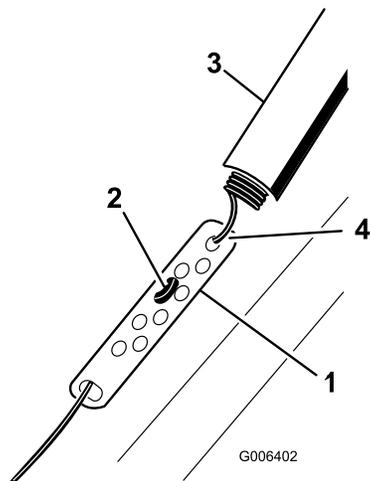

Figure 10
- Slide up the spring cover and unhook the spring from the adjuster link (Figure 10).
- Move the Z-fitting to a higher or lower hole on the adjuster link as needed to obtain the 2 to 3 mm (1/16 to 1/8 inch) gap between the control bar and the handle (Figure 10).